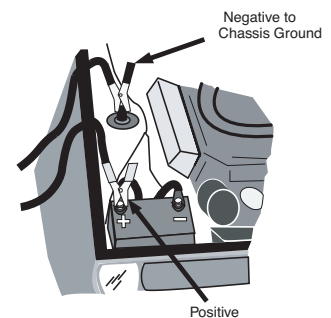

Figure 5. Negative Ground Vehicle
a. Negative Ground Vehicles (most common, see Figure 5)